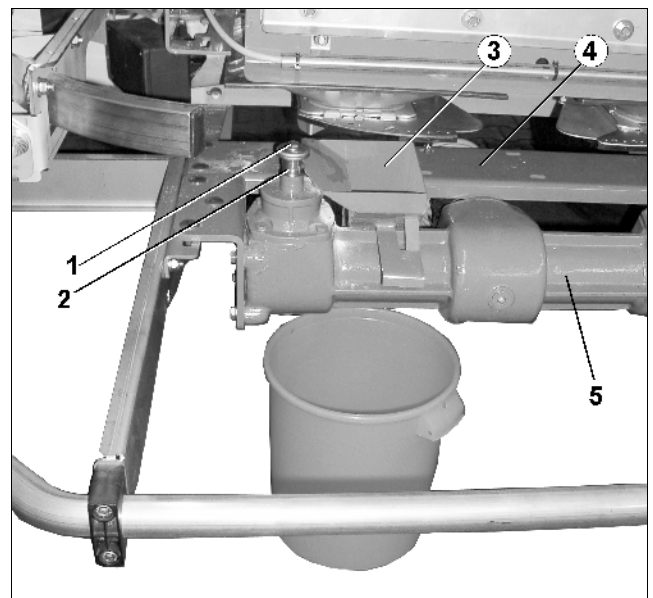

Fig. 28
- Unscrew the hexagonal bolt (Fig. 28/1) for fixing the left hand spreading disc and pull the spreading disc off the gear box shaft (Fig. 28/2).
- Put the calibration funnel (Fig. 28/3) between the bridge (Fig. 28/4) and distribution drive (Fig. 28/5) and push it until the gear box shaft..
- Locate the collecting bucket (Fig. 28/6) underneath the calibration funnel.